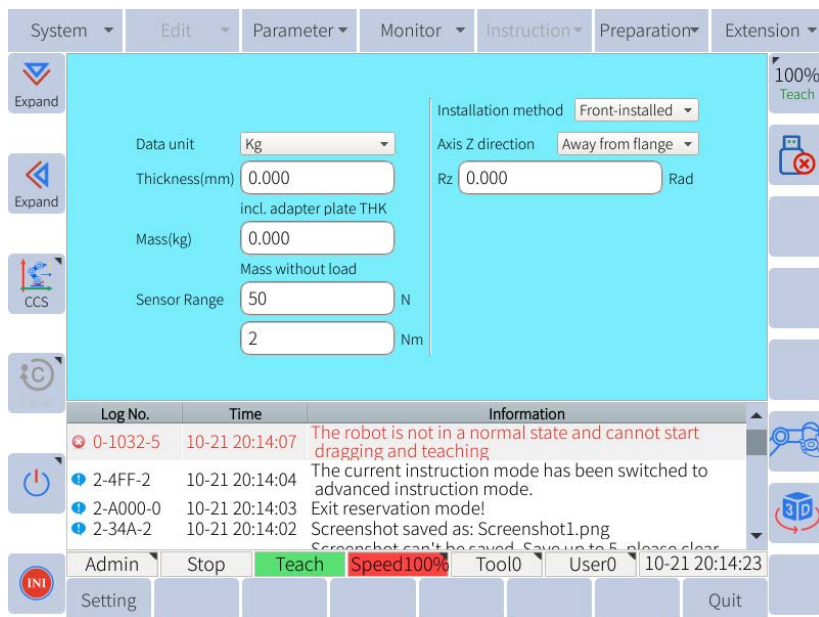

Figure 6-29: Sensor parameter settings
- Select "Kg" or "N" from the drop-down list of Data unit, as shown in **Figure 6-29**. Note that the unit selected must be same as that of the sensor. For instance, the original data unit of KUNWEI sensor is Kg. The user must select "Kg" if a KUNWEI sensor is used.
- Users can click **Extension->Force control->FC Parm** to set up the parameters in the force control gain display. Users can enter a random number between 0 and 1, as required, and click "Settings", as shown in **Figure 6-29**. Please note that the higher the force tracking value, the heavier the payload. This will cause an obvious jitter of the robot.